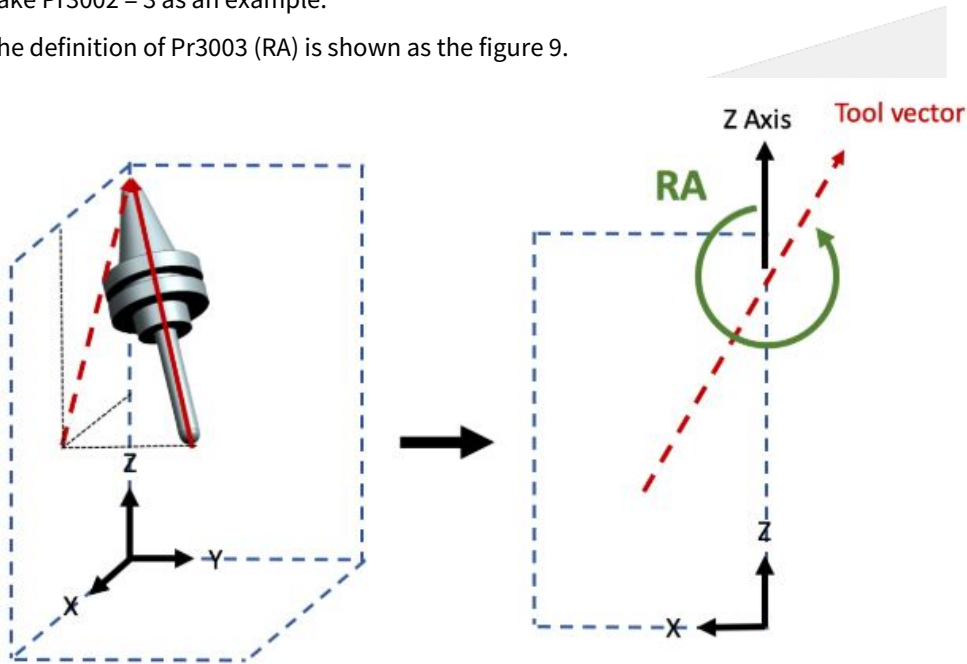

Figure 9
The definition of Pr3003 (RA) is shown as the figure 9.